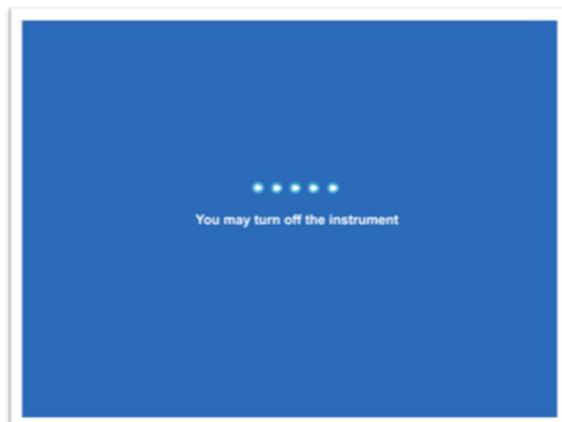

Figure 44: Final Shutdown Screen
4. When the "You may turn off the instrument" message displays (Figure 44), you can safely shut off power to the analyzer by pushing the OFF switch on the left panel of the analyzer. (Figure 2)